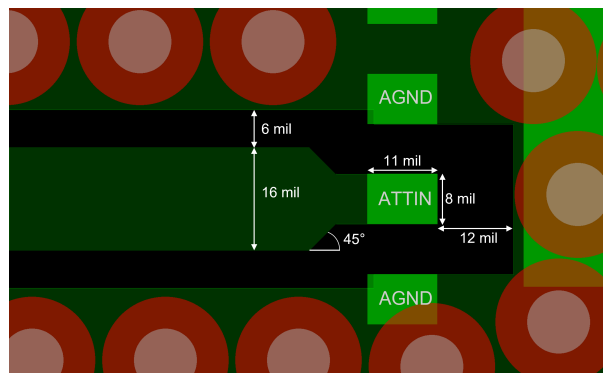

**Figure 24. Recommended ATIN Pin and ATTOUT Pin Transitions**
**Figure 24** shows the recommended layout from the AT TIN and ATTOUT pins of the ADRF5716 to the 50  $\Omega$  CPWG on the referenced stackup. The PCB pads are drawn 1:1 to device pads. The ground pads are drawn solder mask defined, and the signal pads are drawn as pad defined. The RF trace from the PCB pad is extended with the same width, 2 mils, and tapered with a 90° angle. The paste mask is also designed to match the pad without any aperture reduction. The paste is divided into multiple openings for the paddle.